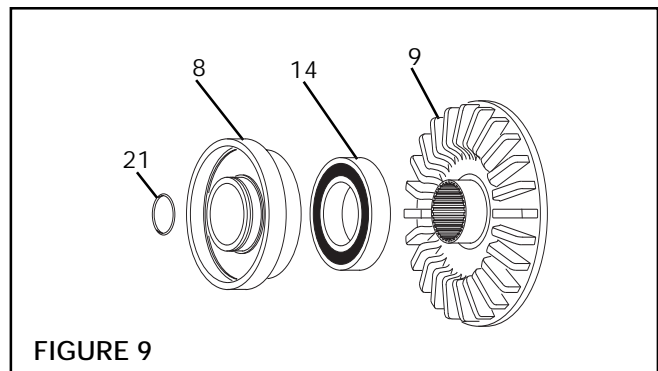

FIGURE 9
1. Fully support the Air Chamber (Item 8) and press the Clutch Friction Disc (Item 9) out of the Air Chamber (See Figure 9).
2. Clean the bearing bore of the Air Chamber (Item 8) with fresh safety solvent, making sure all old Loctite® is removed (See Figure 9).
3. Apply an adequate amount of Loctite® 680 to evenly coat the outer race of the new Bearing (Item 14) (See Figure 9).
4. Carefully align the O.D. of the new Bearing (Item 14) with the bore of the Air Chamber (Item 8) and press the new Bearing into place (See Figure 9).
5. Carefully align the hub of Clutch Friction Disc (Item 9) with the bore of the new Bearing and press the Clutch Friction Disc into the new Bearing and Air Chamber (Item 8) (See Figure 9).
10. Remove the old O-ring Seals (Items 18, 19, 20 and 21) from the Air Chamber-Piston (Item 7), Air Chamber (Item 8), and Piston (Item 3) (See Figures 9 and 10).
12. Lubricate the new O-ring Seals (Items 18, 19, 20, 21, and 22) with fresh o-ring lubricant and install the new O-ring Seals (See Figures 9 and 10).